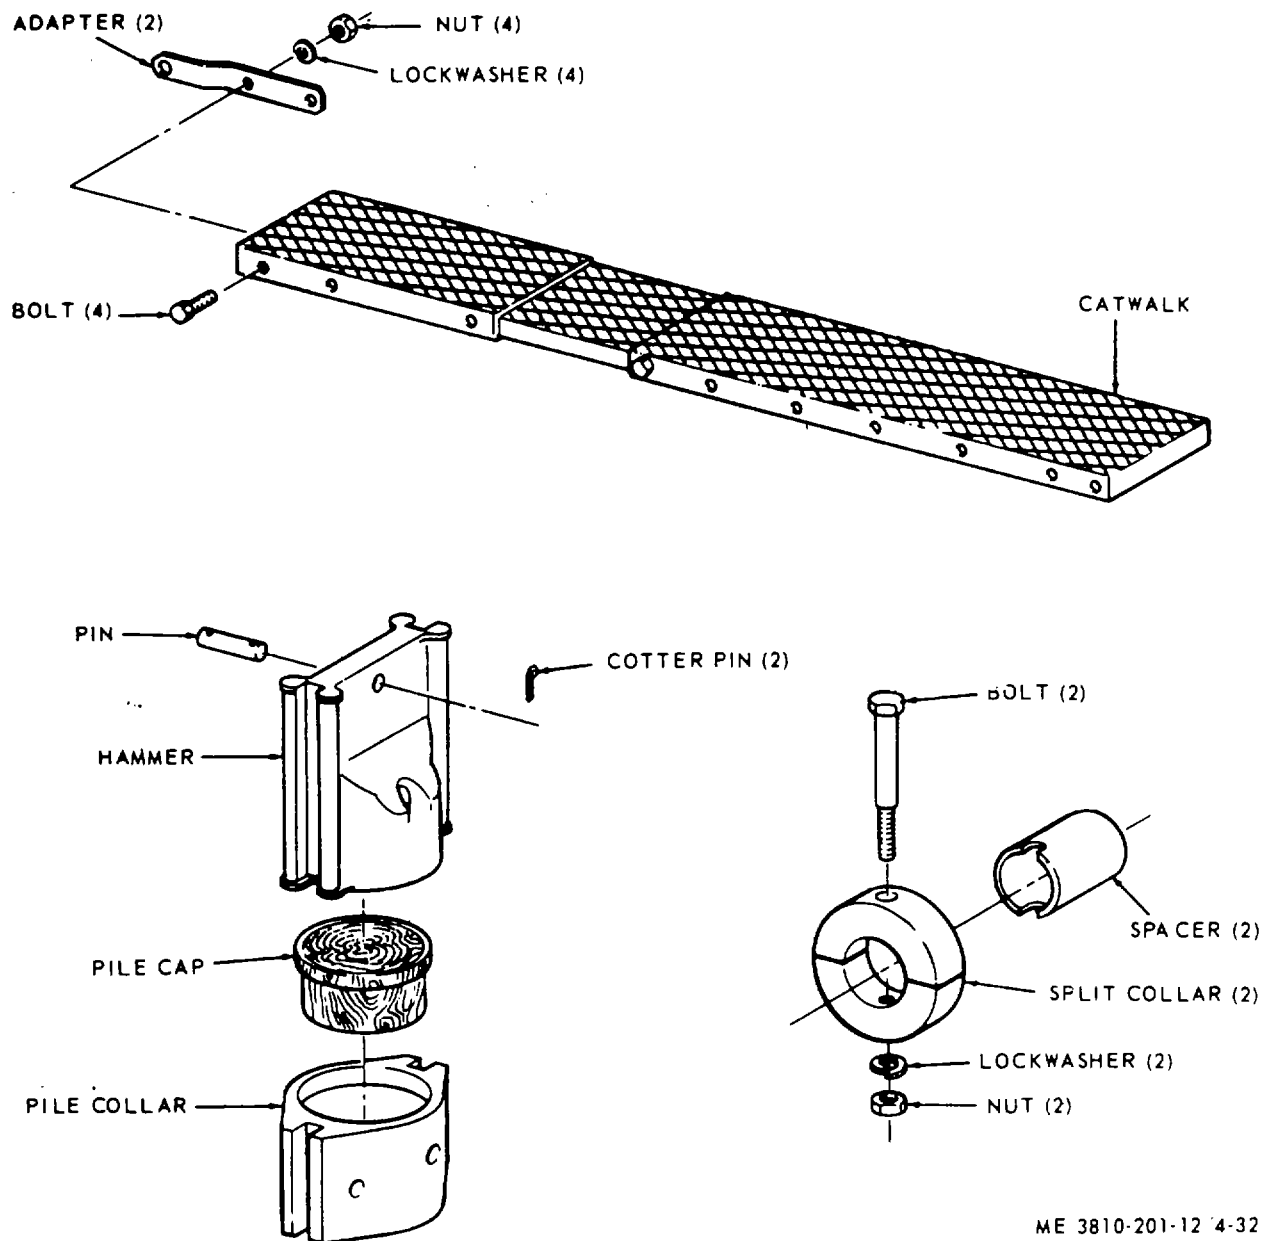

Figure 4-32. Pile lead attaching hardware.
(2) Position two spacers (fig. 4-32) on boom point sheave pin ends, install two split collars, and secure each with bolt, lockwasher and nut.
(4) Use wedges or jacks to take weight off of pile hangers, remove two nuts, lockwashers, and bolts securing split collars (fig. 4-32), remove two collars, and two spacers.
(5) Remove one lead hanger (para 4-34) work remaining hanger off boom point sheave pin, move crane shovel unit away; from leads, then reinstall removed hanger on lead.
(6) Raise boom and move crane-shovel unit to area for boom removal, if required.
boom until leads are over hammer, then install hammer cable to pin (fig. 4-32).